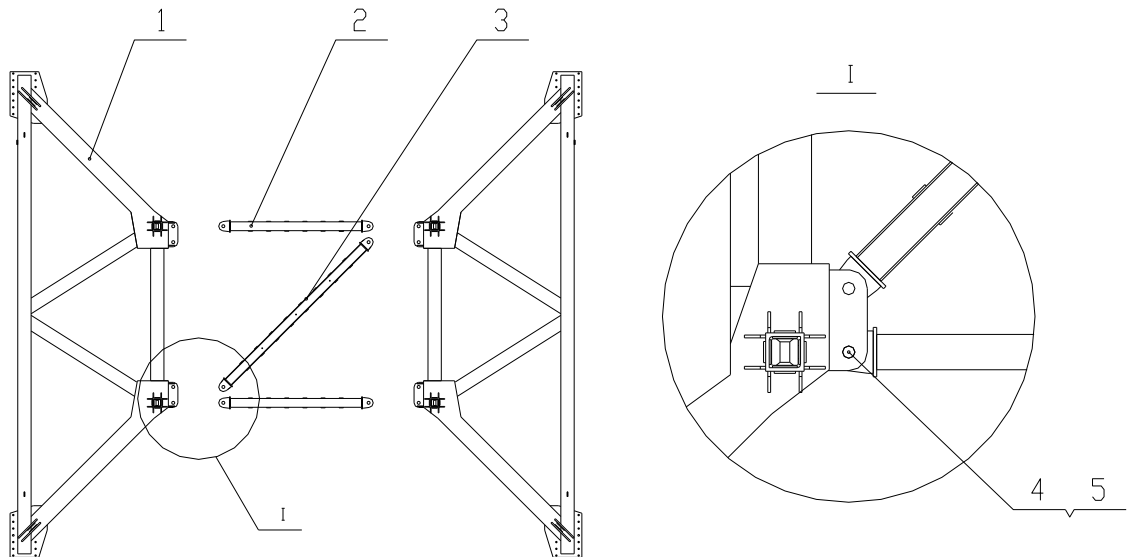

Fig. 4-58 Connecting the 2 piece beams
- 1) Connect the 2 piece beams together by the straight struts and the incline strut, refer to Fig. 4-58 and